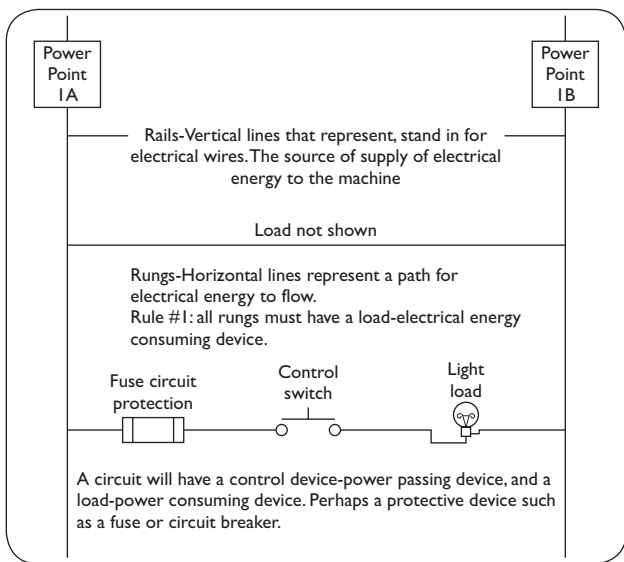

Figure 14–1 Description of the Framework of a Ladder Diagram
Figure 14–1 provides the framework of a typical control circuit in ladder diagram format. Electrical circuits and their symbolic diagrams typically contain the following elements:
Figure 14–2 is composed of two diagrams. The upper part is the power diagram. The ladder diagram of the pilot duty control devices is in the lower portion. The control devices are the Stop and Start buttons, the phase monitor relay, the motor starter coil, and the overloads. The main power portion contains the source L-1, -2, and 3-, the motor starter contacts (M), the overloads (OL), and the three-phase motor.